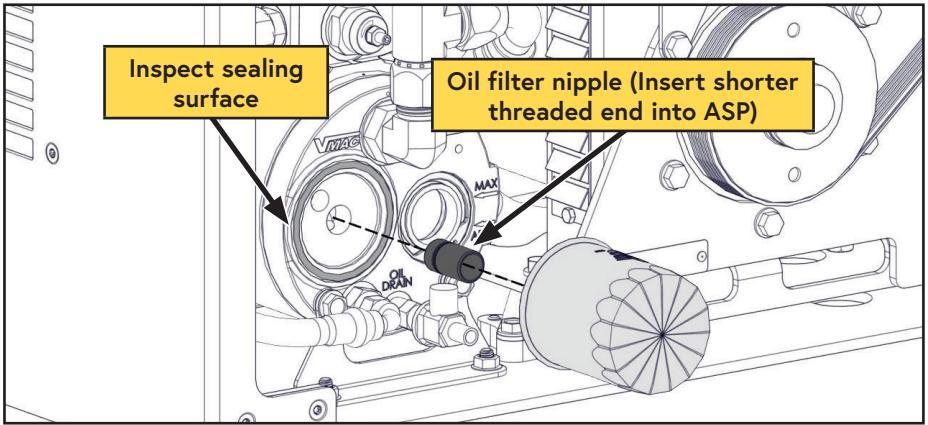

Figure 32 — Compressor oil filter
- *If the nipple came out with the oil filter, remove it from the filter, being careful to avoid damaging the threads (Figure 32).
- *To reinstall the nipple, thoroughly clean the threads and apply Loctite 242 (blue) to the end with the short threads and replace it in the ASP (Figure 32).
- Clean the gasket sealing surface on the front of the ASP and inspect it for damage. The surface must be free of old gasket material, and smooth, to ensure a good seal (Figure 32).